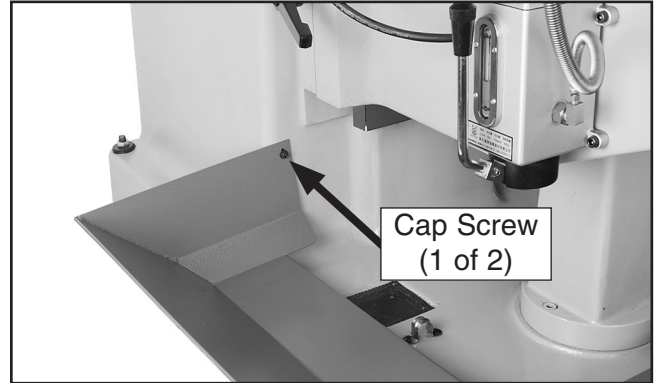

Figure 13. Splash pan installed (left side shown).
4. Use the vertical crank to raise the knee until you can position the splash pan on the base, then secure the pan in place with the two cap screws, as shown in **Figure 13**.